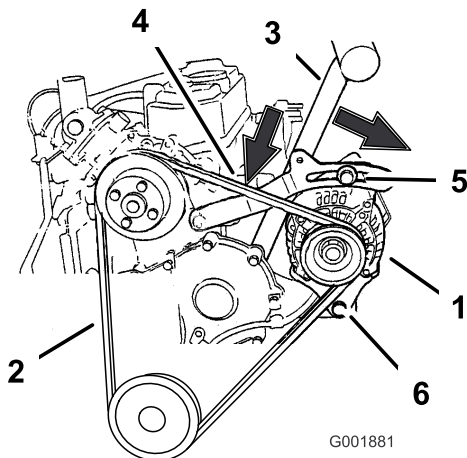

Figure 67
6. Loosen the two bolts holding the alternator (Figure 67).
7. Remove the belt from the pulleys and alternator (Figure 67).
8. Install a new belt around the pulleys and the alternator (Figure 67).
1. Place a handle between the alternator and cylinder block (Figure 67).
2. Adjust the alternator to the outside until there is 3/8 to 1/2 inch (10 to 13 mm) deflections in the belt between the engine and the alternator (Figure 67).
5. If the deflection is correct, torque the upper bolt to 170 in-lb (19 N-m) and the bottom bolt to 45 ft-lb (61 N-m) (Figure 67).